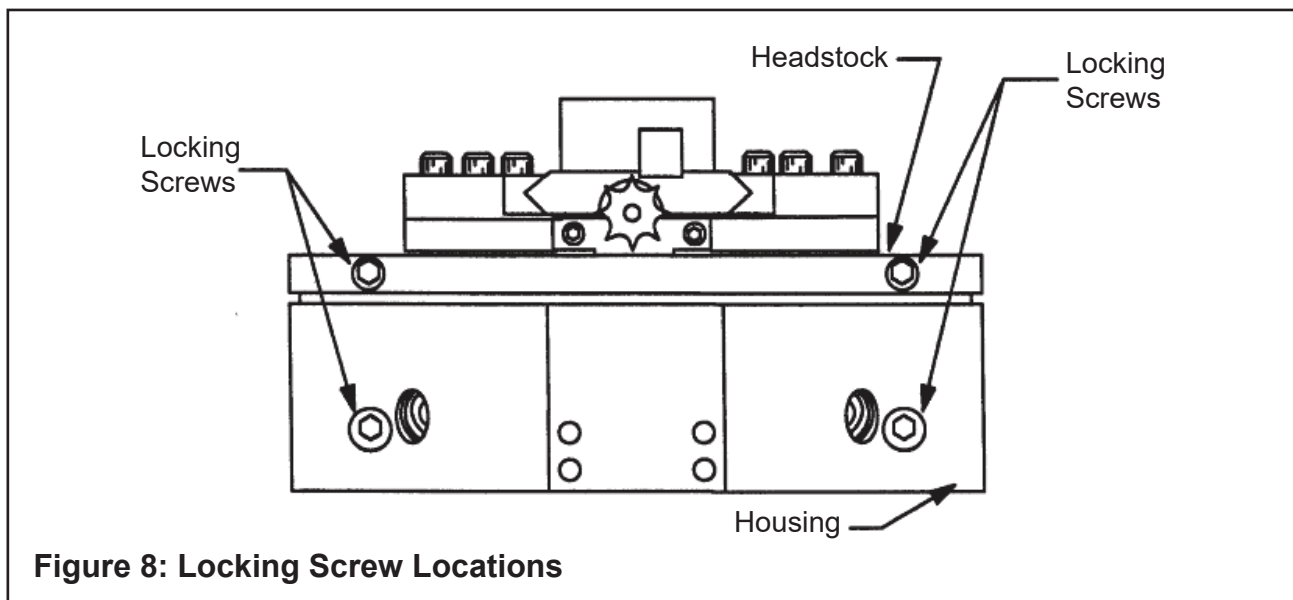

Figure 8: Locking Screw Locations
5. Two Locking Screws are located on the Housing and two more on the Headstock (refer to Fig. 8). The Locking Screws are secured, thus avoiding the loss of parts.